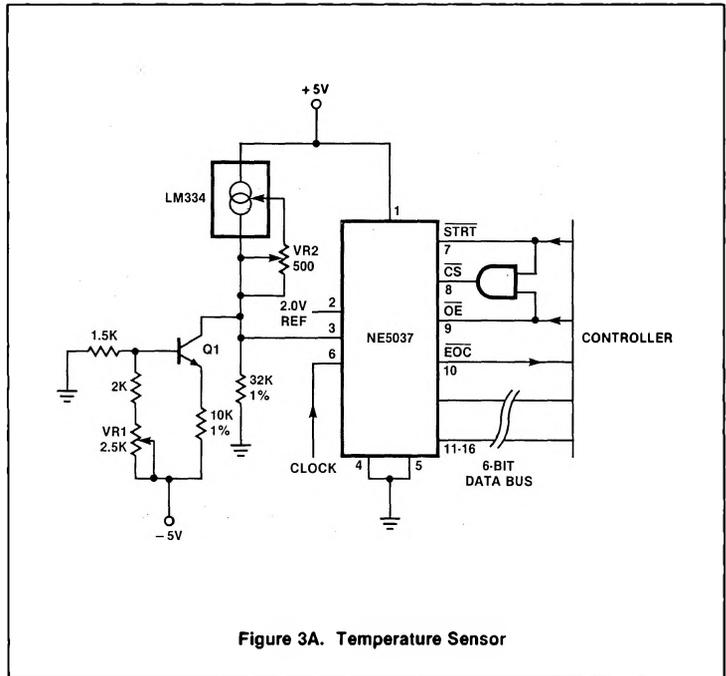
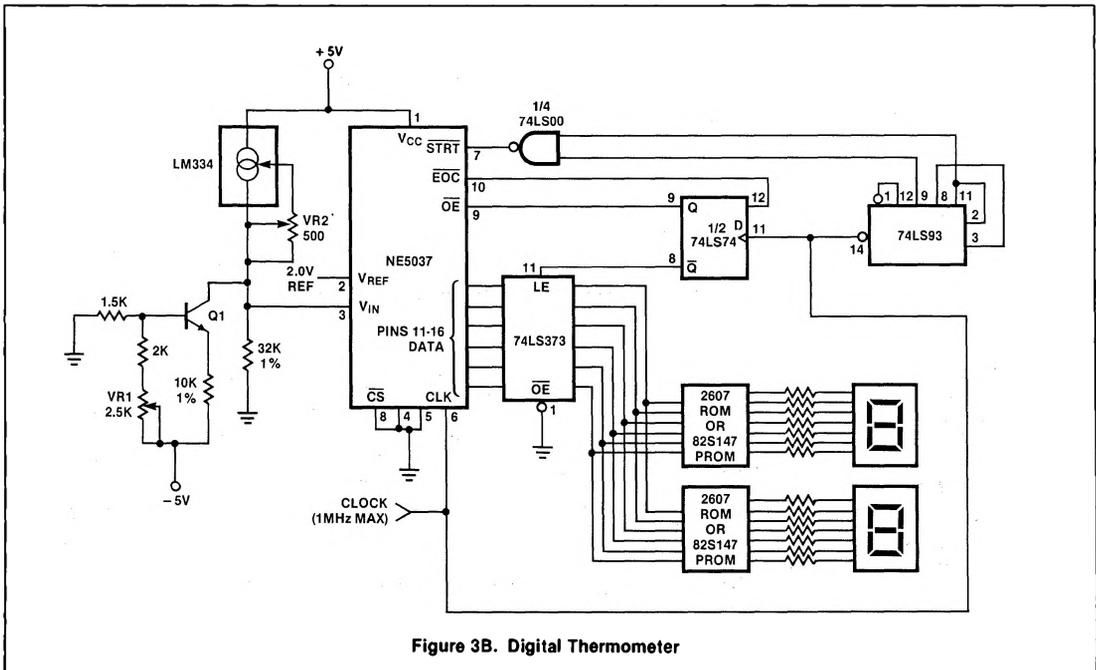

Figure 3A. Temperature Sensor
Figure 3B. Digital Thermometer
The temperature sensor of Figure 3A provides an input to Pin 3 of the NE5037 of 32 millivolts per degree Celsius. This 32mV is the value of one LSB for the NE5037. The LM334 is a three-terminal temperature sensor and provides a current of 1 microamp for each degree Kelvin. The 32K-ohm resistor provides the 32 millivolts for each microamp through it, while the transistor bleeds off 273 microamps of the temperature sensor (LM334) current, lowering the reading by 273 degrees Kelvin, thus converting from Kelvin to Celsius.
The controller can be a microprocessor in a temperature control application, or discrete circuitry in a simple temperature reporting application. A temperature reporting (digital thermometer) circuit is shown in Figure 3B. The ROMs or PROMs
The displayed output could easily be converted to degrees Fahrenheit by the controller of Figure 3A or through the (P)ROMs of Figure 3B. When doing this, a third (hundreds) digit (P)ROM and display will, of course, be needed for displaying temperatures above 99°F.